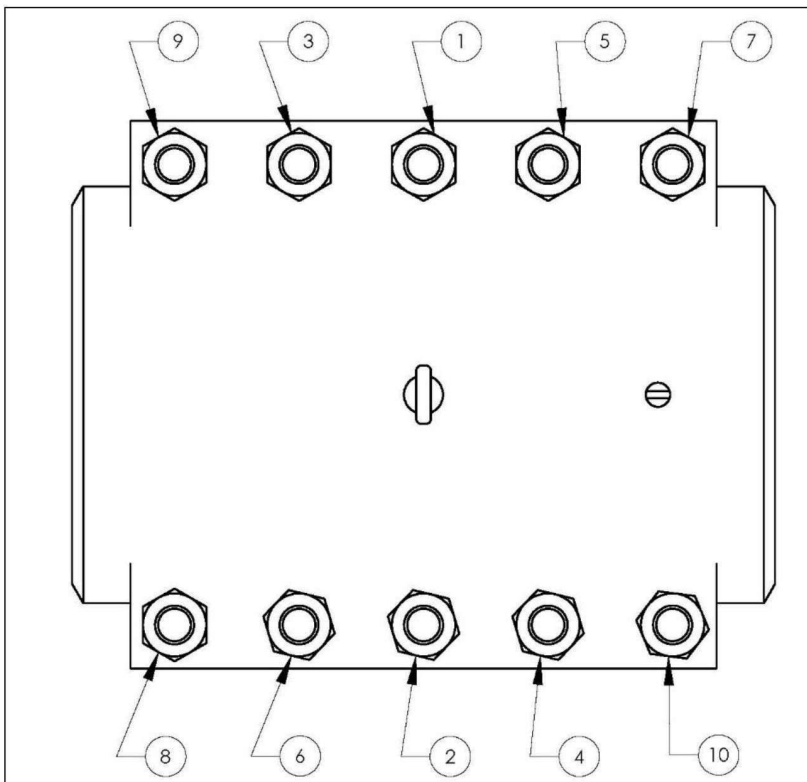

Figure 10
7. Torque the studs uniformly as indicated by the corresponding value per bolt size from the **PLIDCO Sealing Area Stud Torque Chart** included on page 19. The best results are obtained by maintaining an equal gap all around the side bars while tightening the studs. Ensure there is full nut engagement by having a minimum of 1/4 inch (6.4 mm) of the studs extending beyond the nuts. The sequence for torquing the studs should follow the pattern as shown in Figure 10, and should be executed repeatedly as follows: